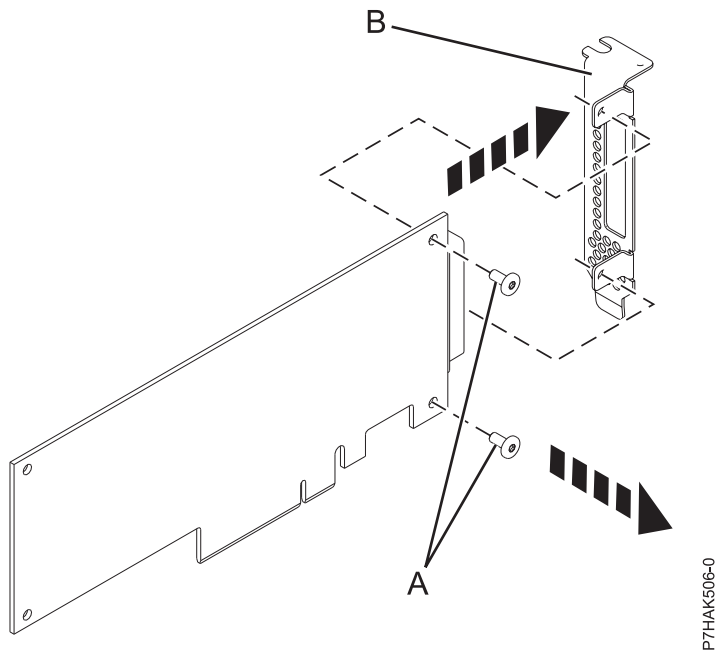

Figure 36. Removing the low-profile tailstock from a PCIe adapter
2. Using a Phillips screwdriver, unscrew the two screws (A) that attach the tailstock (B) to the PCIe adapter, as shown in Figure 36.